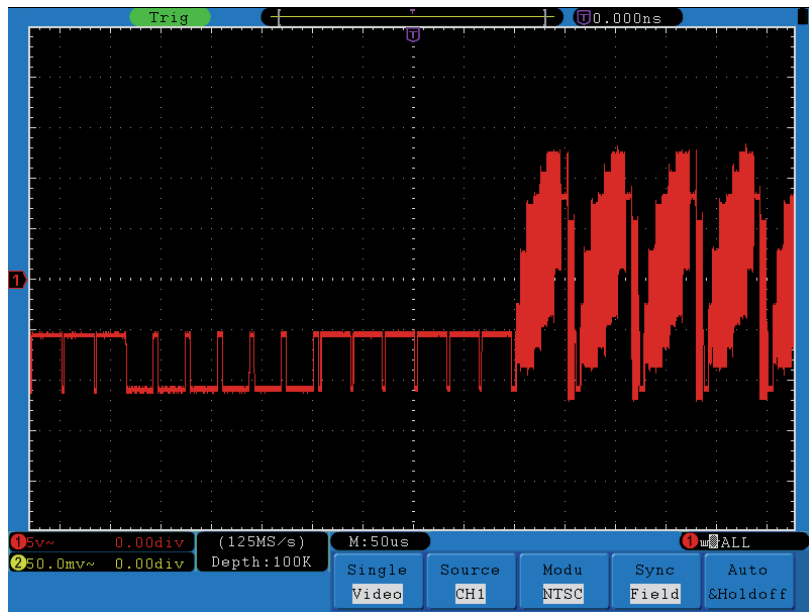

Figure 86. Waveform Captured from Video Field Trigger.
- 11 Turn the **VOLTS/DIV**, **VERTICAL POSITION** and **SEC/DIV** knobs to obtain a proper waveform display (see Figure 86).